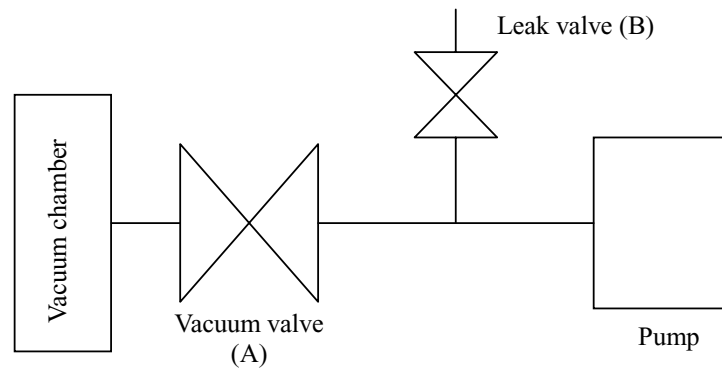

Fig. 3 Basic piping diagram to the vacuum chamber
- (2) Mount vacuum valve (A) and leak valve (B) between the vacuum chamber and pump as shown in Fig. 3.
- ① In the process of manufacturing semiconductors, pump oil may deteriorate over a very short period of time. It is recommended that the pump oil should be replaced within 10 days after starting use of the pump, and the replacement frequency of the pump oil should be decided based on the contamination level of the pump oil.
- ② If the pump evacuate a lot of moisture, replace the oil frequently. If the pump is used with gas which contains a lot of moisture, the lubricity of the pump oil deteriorates and corrosion of the pump's components advance, causing the pump to malfunction.
- ③ If chemicals including acid has been evacuated, the pump may become rusty while it is not being operated (i.e. overnight), making operation impossible. If such chemicals are evacuated, replace the pump oil immediately.
- ④ Solvents which deteriorate the lubricity of the pump oil will cause scoring, etc. If such a solvent is evacuated, replace the oil.
- ⑤ If operation is performed continuously at a high evacuation pressure of 10 kPa or more, a large amount of pump oil is consumed, causing a shortage of oil and insufficient lubrication of the pump. If such a condition continues, components will rapidly wear and become scored. Avoid continuous operation at a high evacuation pressure as much as possible and, without fail, add pump oil.
- ⑥ Do not block the flow of air to the motor fan as the temperature of the motor and pump will increase.
To start operation, close leak valve (B), open vacuum valve (A) to the inlet port, and turn on the power switch. Then the pump starts to exhaust (see Fig. 3).
To stop operation, close vacuum valve (A), open leak valve (B) quickly, and turn the power switch off (see Fig. 3).